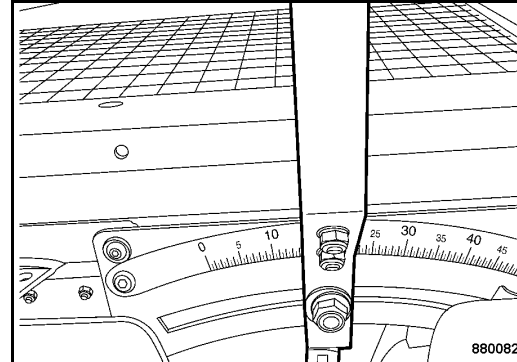

Fig. 100
- Set the required chipping quantity with the chipping quantity adjustment lever (Fig. 100).